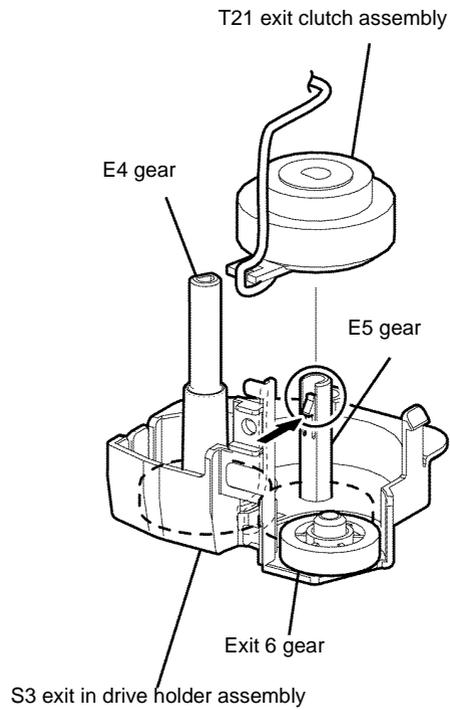

Figure 4 T21 exit clutch assembly removal
17. Release the hook on the E5 gear, then remove the T21 exit clutch assembly, Figure 4.